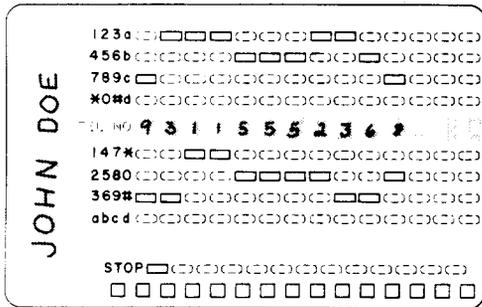

Fig. 4—Dial Card Coded for Access Code (9), Stop, Area Code (311), and 7-Digit Telephone Number
3.08 In certain PBX systems, it may be necessary to dial an access code to obtain central office dial tone. To prepare a card, proceed as follows (Fig. 4):